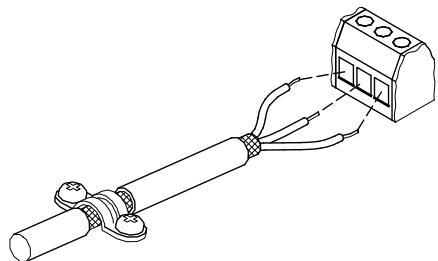

Fig. 43 Example of stripped cable with screen
- Leave the screen as close to the connecting terminals as possible. See fig. 43.